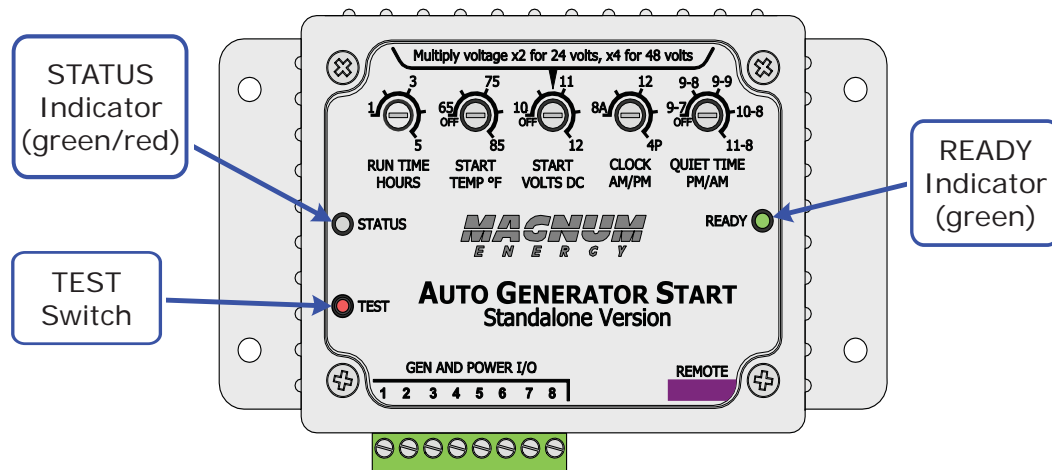

Figure 4-1, Controller Front Panel Controls and Indicators
- a) the red TEST switch (on the Controller - see Figure 4-1); or
The front of the controller (see Figure 4-1) provides a pushbutton to test the AGS system operation, and two LEDs indicators for viewing system operation.